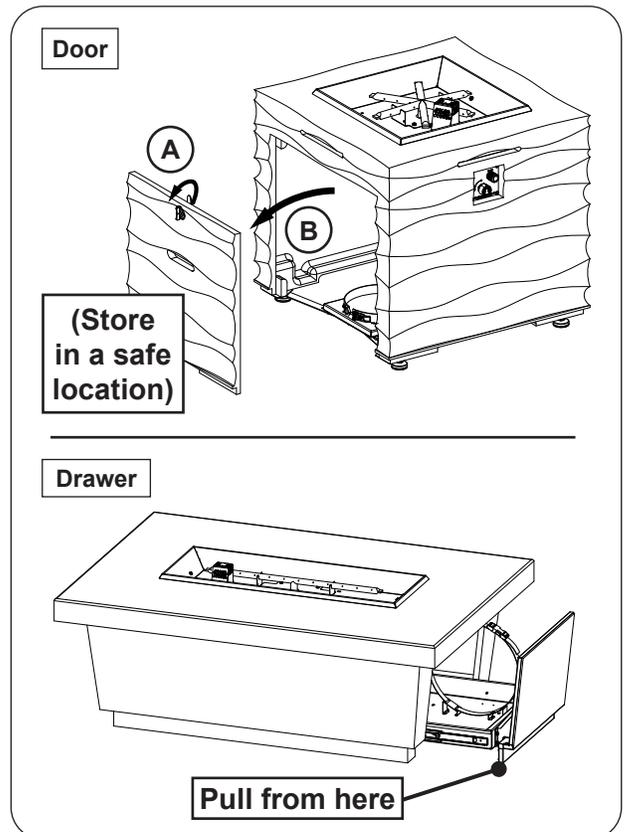

Fig. 30-3 Remove or open door/drawer (if applicable)
2. Remove/open the storage door/drawer. See below and Fig. 30-3.